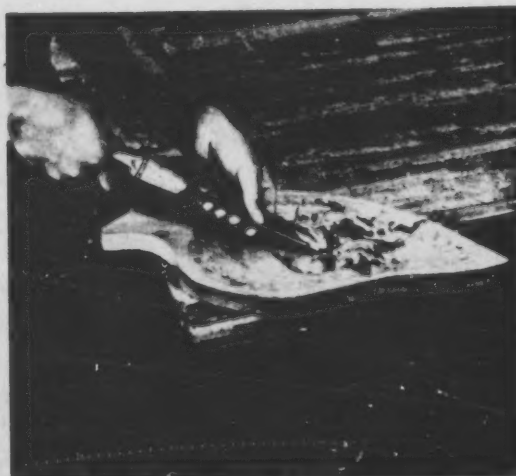

Figure 6-9 Using both hands to hold the gouge
- b. Use both hands—one on the handle and one on the blade (*Figure 6-9*).